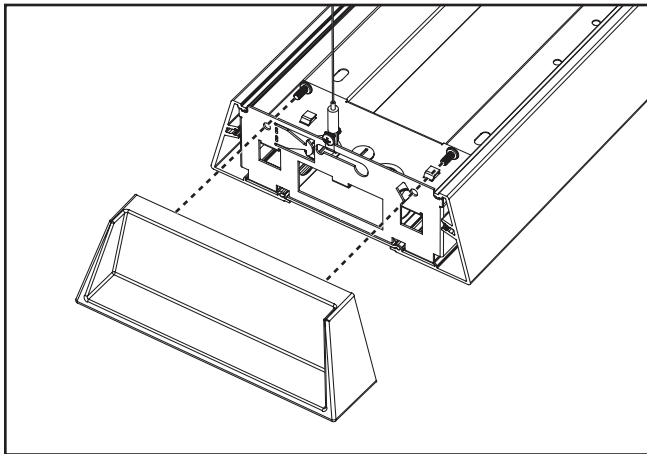

Figure 9.
1. End Cap: Slide into end of fixture and secure with two 10-32 x 3/8" self-tapping screws. (Figure 9.)